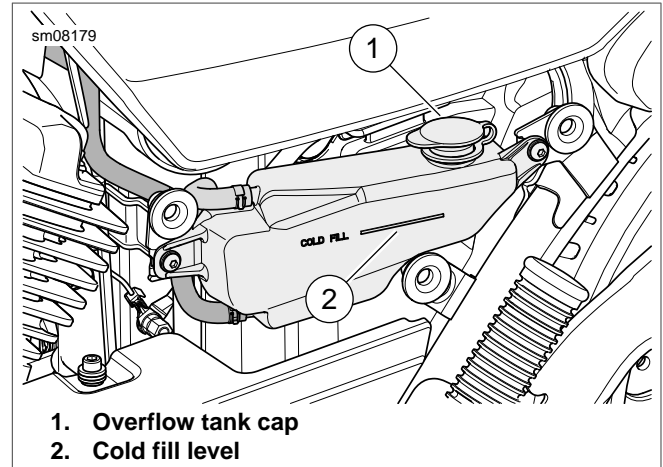

Figure 32. Coolant Overflow Tank
4. See Figure 32. Check that coolant level is at or slightly above the "COLD FILL" line (2).